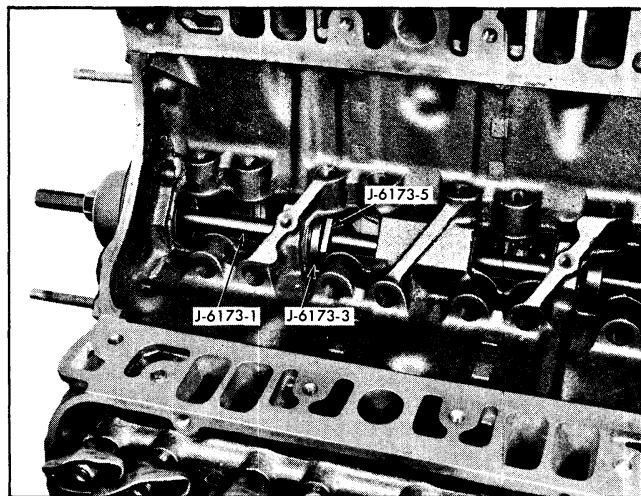

Fig. 6-49 Preparing to Remove Camshaft Bearing
5. Slip key J-6173-5 into notches in shaft behind bearing to be removed (Fig. 6-49).